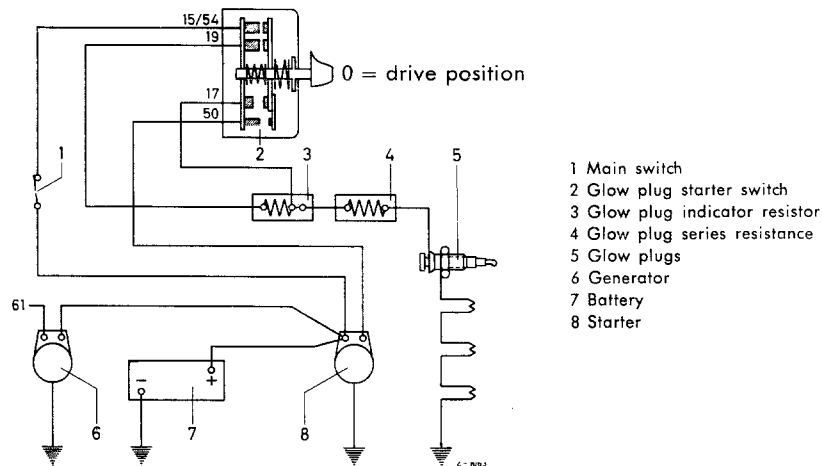

Fig. 15-30/1
The glow plugs are supplied with heating current from the 12 volt battery via the glow plug starter switch. In accordance with their rated voltage they are series-connected with the glow plug indicator resistor (3) and the additional glow plug series resistance (4) (see Fig. 15-30/1) so that the sum of all individual rated voltages, including the voltage drop in the leads, corresponds to the rated voltage of the battery.
When the engine is being started, the glow plug indicator resistor is short-circuited in order to ensure that the efficacy of the glow plug does not decrease too much in relation to the decreasing battery voltage (see Fig. 15-30/1 and Job No. 15-33, description of the four switch positions, Section 4).